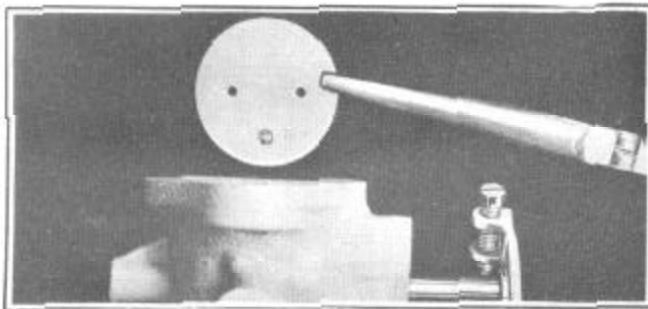

FIGURE 25
6. Install throttle shaft and lever assembly and throttle valve. Small "c" in circle should be toward idle port facing manifold side of flange, Figure 25. Center the valve by tapping valve lightly before tightening screws. Peen ends of screw threads to keep screws from loosening.